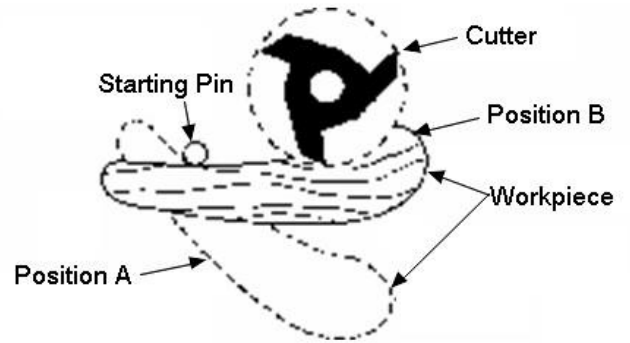

Fig. 40
When the workpiece is not contoured all around, start the cut as shown in Fig. 40. With this operation, the workpiece is positioned against the starter pin and the end swung into place to start the cut. When the cut has begun and the workpiece firmly against the collar, swing the stock away from the pin and proceed with cut.
1. The work should be placed in the position A, (Fig. 40), using the starting pin as a support